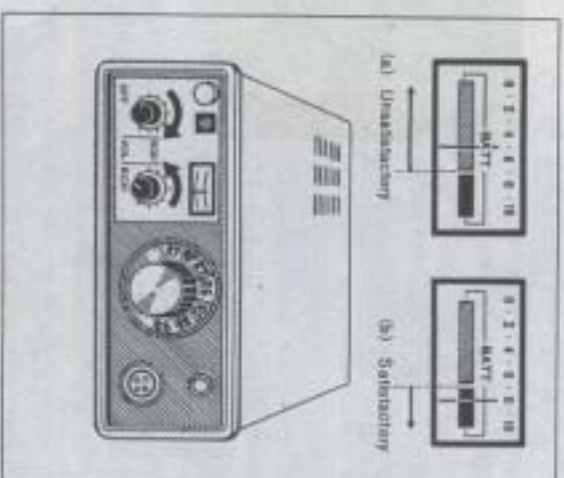

Fig. 5 Voltage Check
3. If the deflection is within the shadowed area as shown in Fig. 5 (top left), this means that the battery has expired and the battery cells must be replaced or charged (for nickel-cadmium battery). When an external power supply is connected, the meter will automatically indicate the external power voltage.